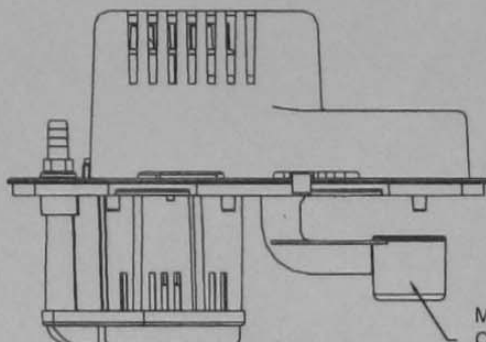

Fig. 6
2. Be sure the floats move freely. Clean as necessary (Fig 6).
3. Test motor switch by raising motor switch float with finger (Fig. 6). Motor should turn on just before float contacts cover.